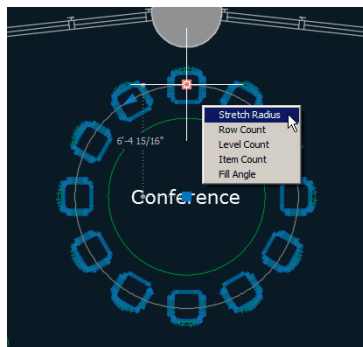

FIGURE 4.21 Editing a polar array with its grips
7. Click any one of the chairs to select the polar array. Hover the cursor over the base point grip, and choose Stretch Radius (see Figure 4.21). Type **5'9"** (or **175** for metric); then press Enter and Esc. The chairs more closely wrap around the smaller table.